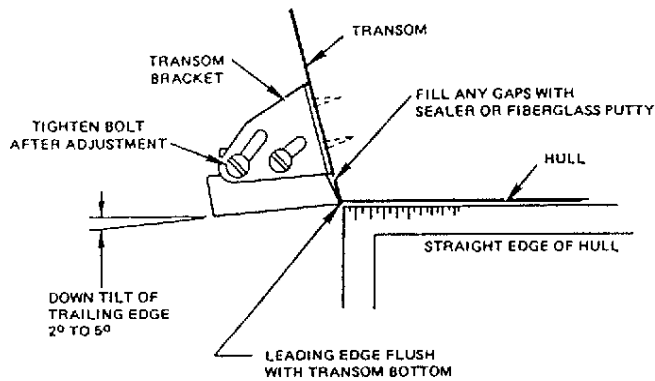

Figure 2-9. Positioning Transom Mounted Transducer
6. Adjust the transducer into the position selected in step 3 as illustrated in Figure 2-9. Be sure that the leading edge is flush and parallel with the transom bottom edge and the dead rise angle does not exceed 10 degrees. Tighten the mounting screws securely.